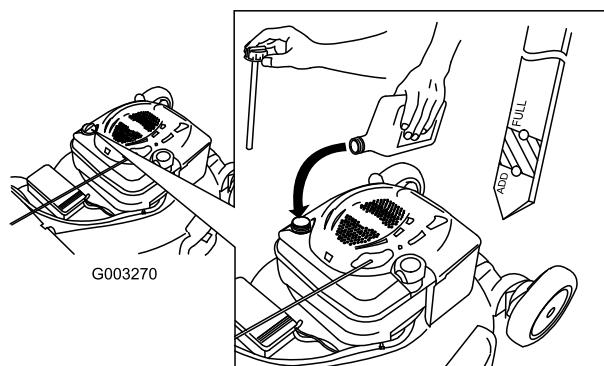

Figure 8
1. Remove the dipstick (Figure 8).
2. **Slowly** pour oil into the oil fill tube until the oil level reaches the Full line on the dipstick (Figure 8). **Do not overfill.** (Max. fill: 20 oz. (0.59 l), type: SAE 30W detergent oil with an API service classification of SF, SG, SH, SJ, SL, or higher.)